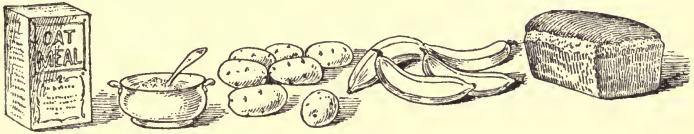

FIG. 23. — Carbohydrate foods.
**Source of fats and carbohydrates.** The chief sources of fats are nuts and the animal foods. (See figure 22.) The carbohydrates are obtained almost entirely from vegetable foods (see figure 23), milk and liver being the only animal foods that contain any appreciable quantity. The car-